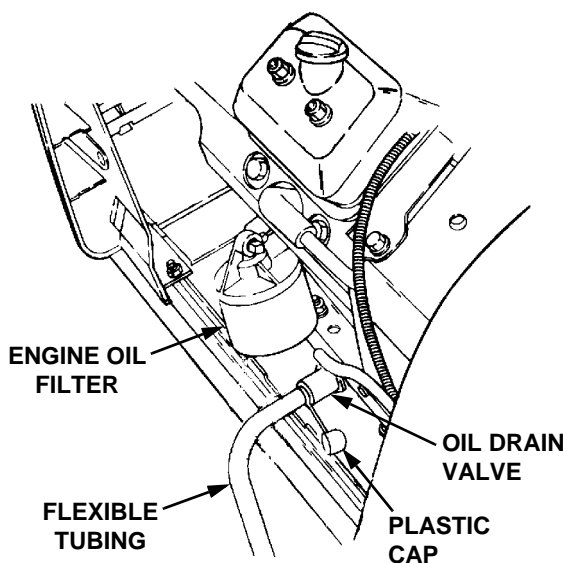

Figure 22
The oil filter is located behind the left side panel and is mounted on the engine (See Figure 22).
3. Unseat the plastic dust cap from the engine oil drain valve. To prevent loss of the cap, do not remove the cap's retaining ring from the drain valve (Refer to Figure 22). Remove the dipstick.
6. Remove the oil fill plug/dipstick from the oil fill port and SLOWLY pour oil into the oil fill port. Fill the transmission case until the oil level reaches the "FULL" mark on the dipstick (Refer to Figure 22).